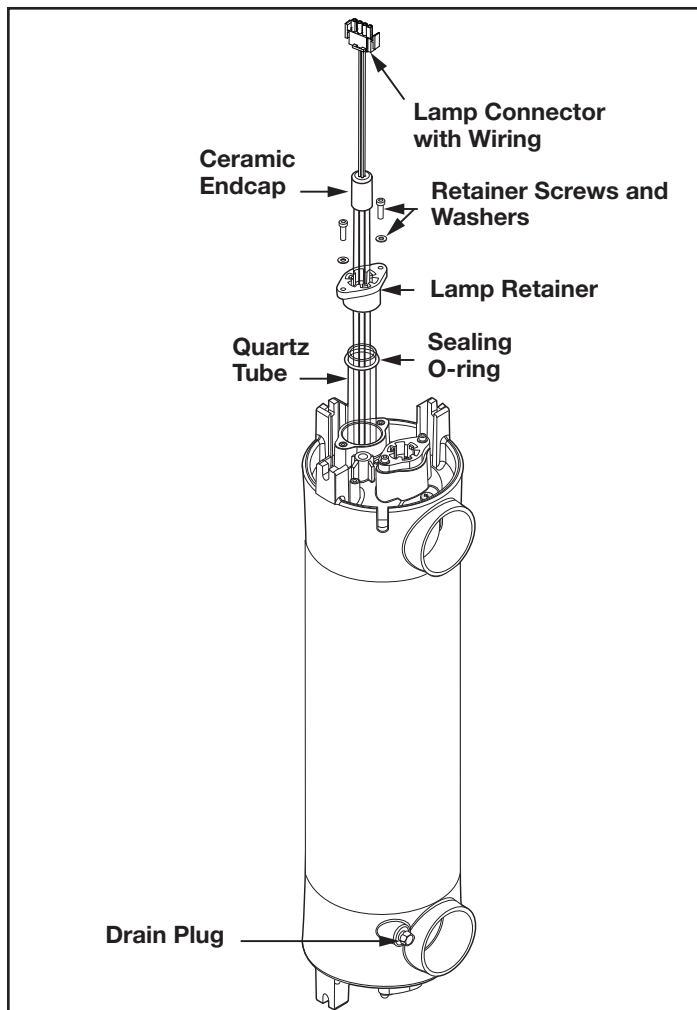

Figure 15. UV Reactor Subassembly
- Before continuing, allow adequate time for the quartz tubes to cool. Drain the water from the UV reactor by removing the drain plug. Replace the plug once water has stopped exiting the UV reactor. See Figure 15.
- Grasp the UV lamp wires and gently pull until the top of the UV lamp has pulled past the lamp retainer tabs. See Figure 15.
- After removing the lamps, remove the top lamp retainer screws using the hex key included in the parts bag. Place the lamp retainer screws, washers and the lamp retainer aside in a safe place. See Figure 15.
- Grasp the quartz tube from the top of the UV reactor. Pull to remove it from the UV reactor. See Figure 15.
- Remove the sealing O-ring from the top of the quartz tube. Set aside in a safe place. See Figure 15.